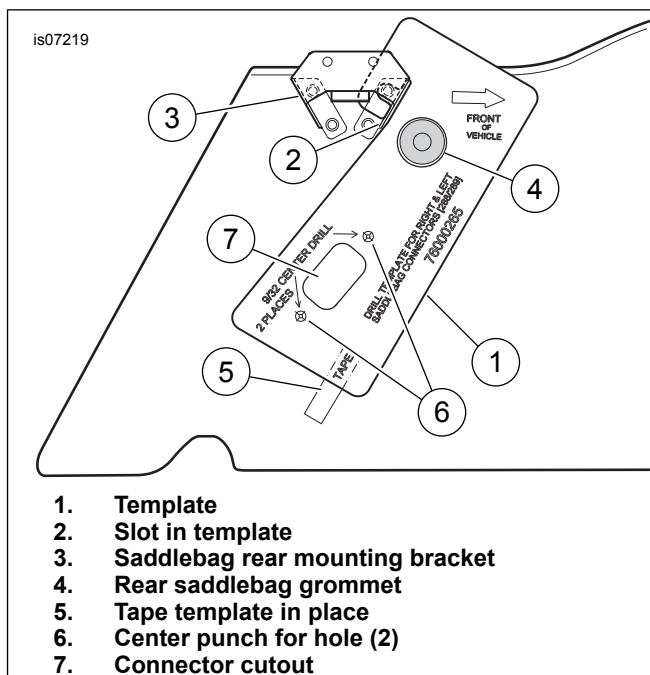

Figure 2. Saddlebag Drilling for 12-Way Panel Mount Connector
4. See Figure 2. Hook the slot (2) in the template (1) over the saddlebag rear mounting bracket (3). Align the template hole over the rear grommet (4). Tape the template in place as shown (5).
5. Mark the locations of the two holes (6) with a center punch. Trace the outline for the connector cutout (7) on the saddlebag inboard wall. Remove the template.